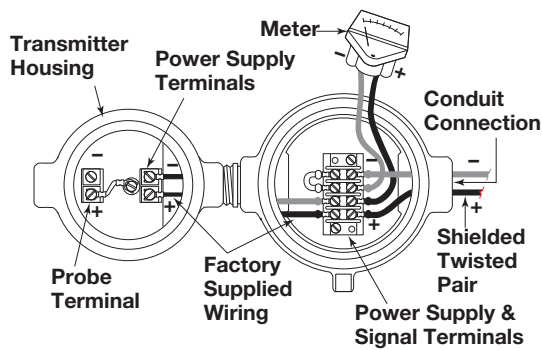

Figure 6
4. Connect the positive supply wire to the (+) terminal and the negative supply wire to the (–) terminal. Connect the shield to the green ground screw at the base of the housing. Make the shield wire as short as possible. Refer to Figure 6.